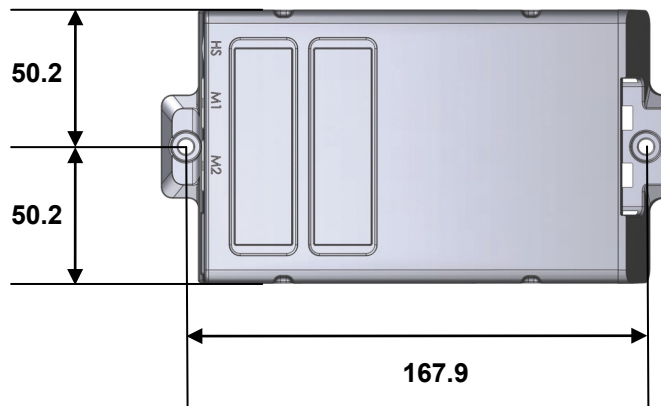
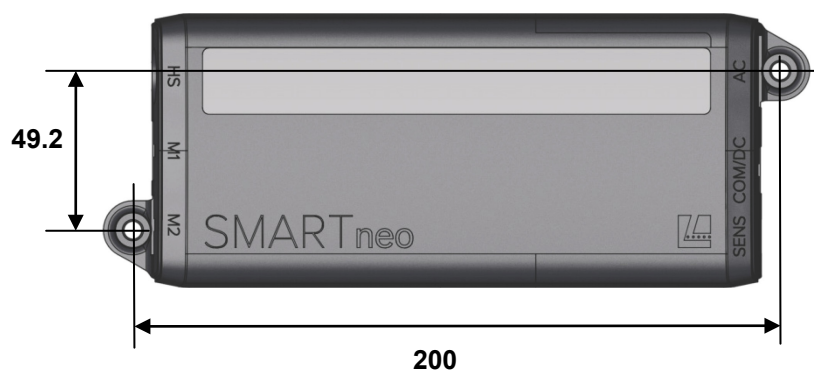
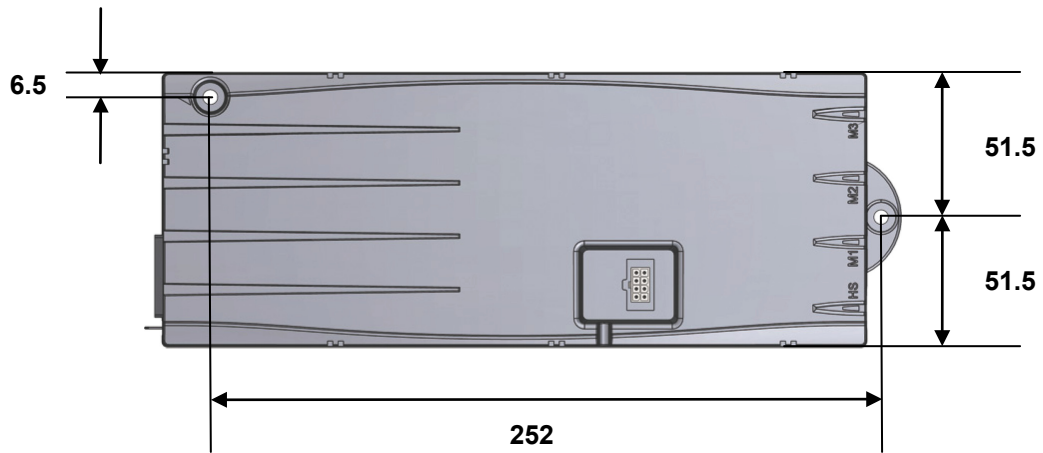

Figure 32 Mounting dimensions: SMARTeco control unit (in mm)
Figure 34 Mounting dimensions: SMARTneo / SMARTneo-pro control unit (in mm)
Figure 36 Mounting dimensions: COMPACT control unit (in mm)
- 1 Mark the drill holes. The drilling dimensions are specified in Figure 32 (control unit SMARTeco), Figure 34 (control unit SMARTneo / SMARTneo-pro) or Figure 36 (control unit COMPACT).